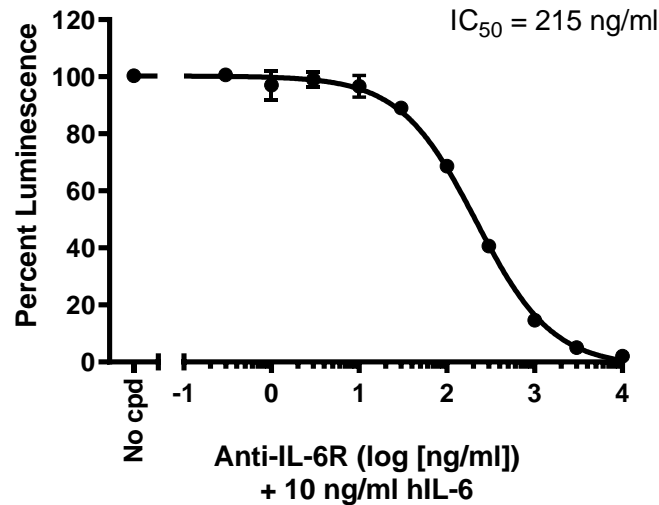

Figure 4. Inhibition of hIL-6-induced reporter activity by anti-IL-6R antibody in STAT3 Luciferase Reporter HEK293 Cell Line.
3. The next day, prepare a three-fold serial dilution of JAK inhibitor CP 690,550 in 50 μ l/well of Assay Medium. Results shown in Figure 4 were obtained by preparing a stock solution of CP 690,550 at 10 mM in DMSO, which was then diluted to 20 μ M in Assay Medium. The serial dilution was prepared at concentrations 2-fold higher than the final desired concentrations in Assay Medium containing 0.2% DMSO (Diluent Solution), to keep the concentration of DMSO constant.